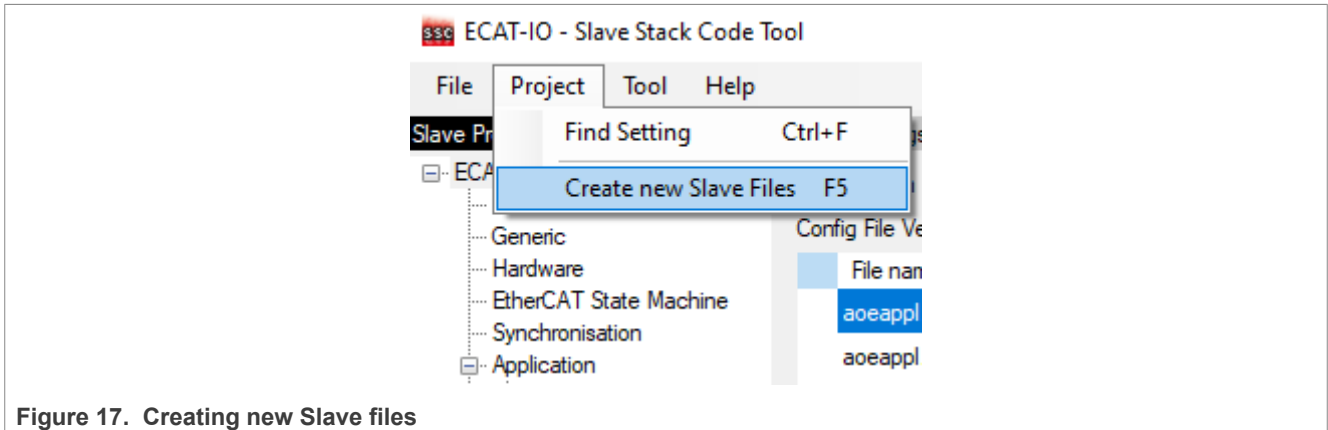

Figure 17. Creating new Slave files
- After creating or importing an Application file, create new slave files, as shown in Figure 17. Click **Project > Create new Slave Files**.